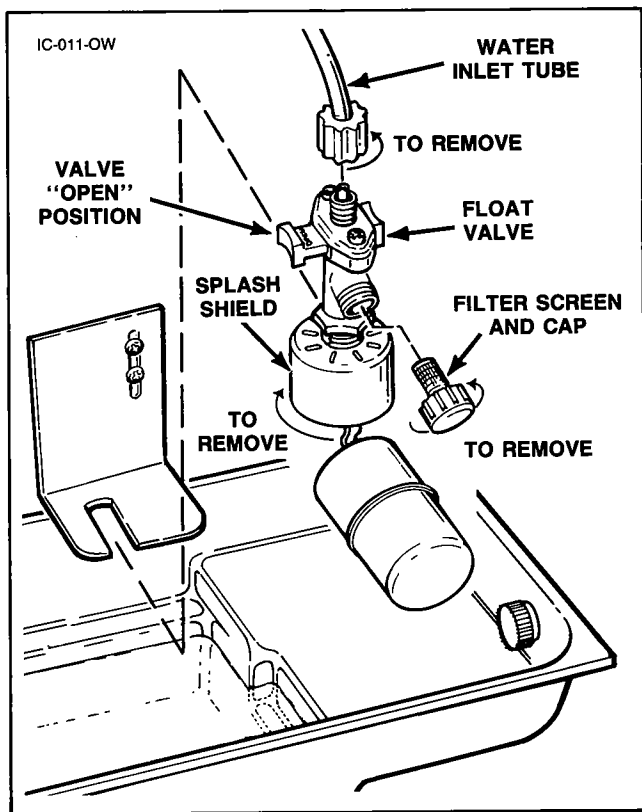

FIGURE 12 FLOAT VALVE REMOVAL
REMOVE FLOAT VALVE (FIGURE 12)
1. Turn on water to ice machine at water service valve and ensure float valve is open, Figure 12.
6. Shut off water at float valve. See Figure 12.